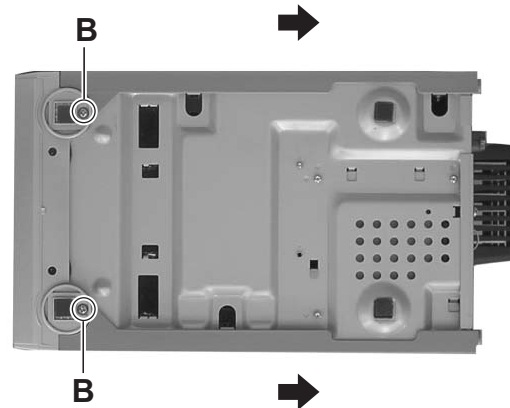

Fig.2
- (2) From the bottom side of the main body, remove the two screws **B** attaching the side covers. (See Fig.2.)
- (3) Remove the both side covers in the direction of the arrow.
(See Fig.2.)
(See Fig.2 and 3)
- (1) Press slide cam and pull out the tray assembly to direction of the arrow from right side of CD mechanism assembly. (See Fig.2)